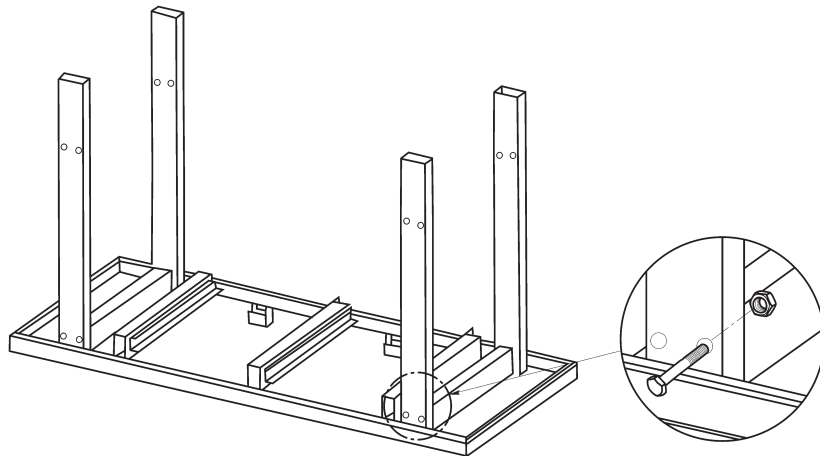

Figure 1
**1.** Position the work bench top face down on a solid surface, allowing yourself plenty of room to assemble the bench. Attach the bench legs using four bolt and nut combinations per leg (see Fig 1).